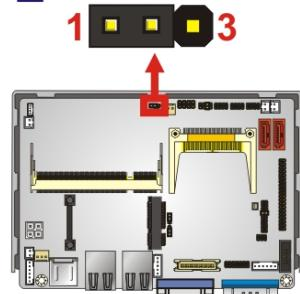

Figure 4-3: AT/ATX Mode Selection Jumper Location
**Jumper Location:** See Figure 4-3